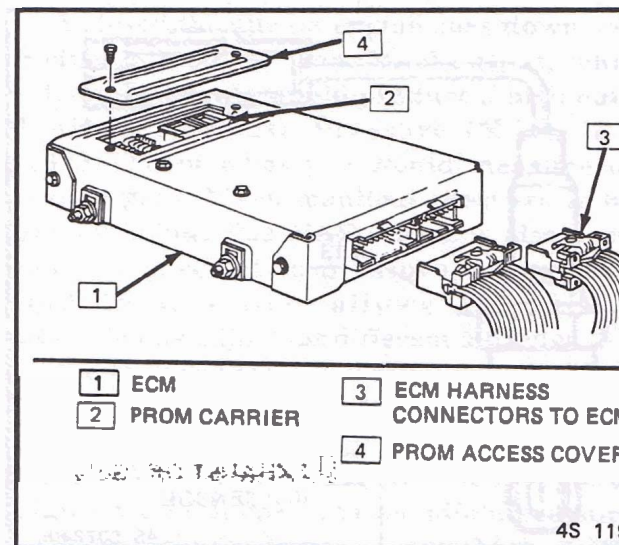

Figure 12 PROM Access Cover
4. ECM access cover (see Figure 12).